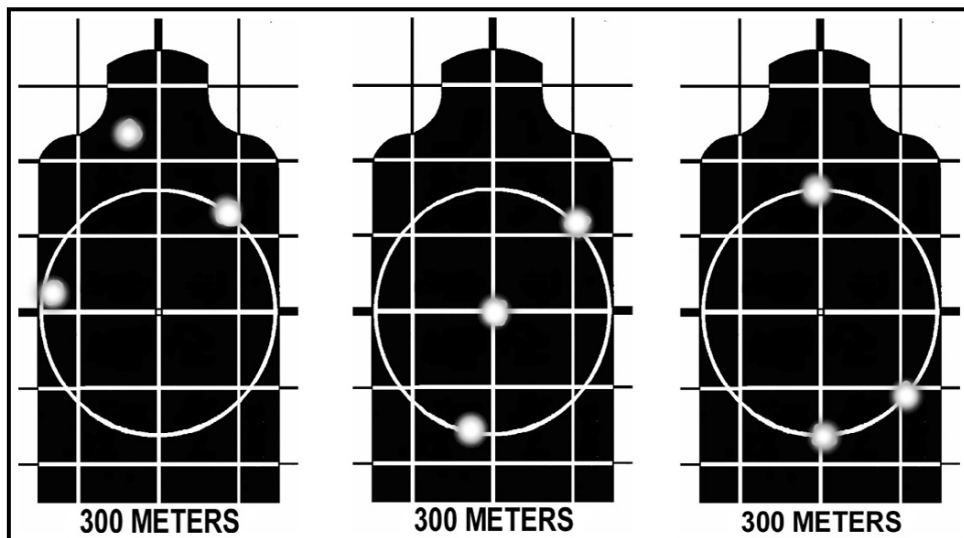

Figure 5-8. Shot groups indicate considerable shooting error.
(4) *4- to 5-Centimeter Shot Groups*. The targets shown in Figure 5-8 represent unacceptable firing performance. A better firing performance should be expected, and the instructor-trainer should ensure the soldier is properly applying the four marksmanship fundamentals. He should explain that this shot group size is not due to weapon or ammunition performance. The placement of shots in these groups (about 4 to 5 centimeters apart on the target) reflects considerable shooting error. Any of these three shot groups could have been a change in position, sight picture, breathing, trigger squeeze or an erratic round. Firers with these shot groups should receive dry-fire training to help correct firing problems. (See Appendix A for more information.)